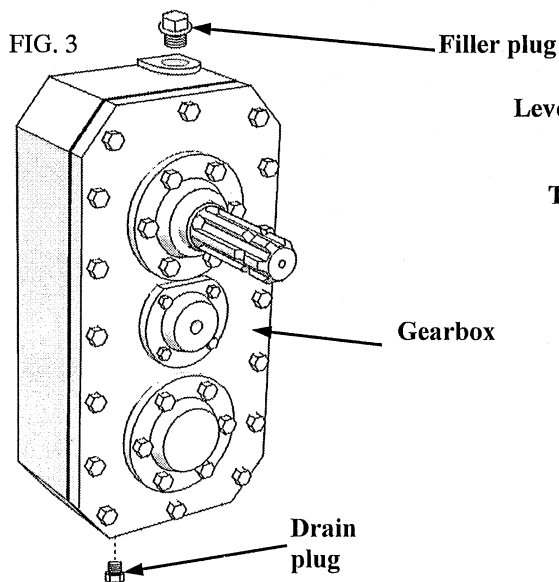
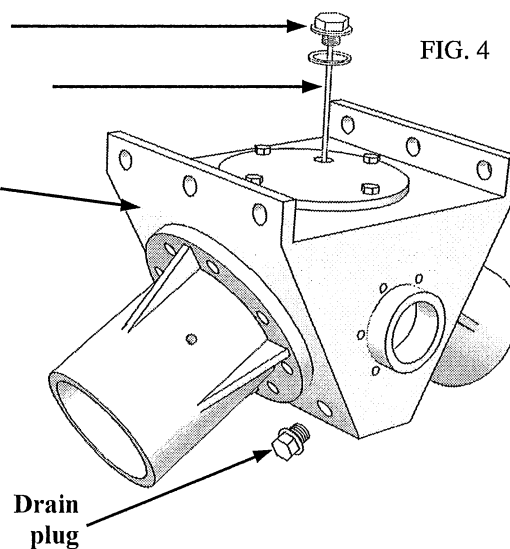

FIG. 3
FIG. 4
- Check oil level in the gearbox (see fig. 3) and in the triangle box (where the transmission shaft is located-see fig. 4), and add if necessary. The correct level of oil is shown by the middle line in each of the boxes. This level is also shown by a rod in the triangle box.